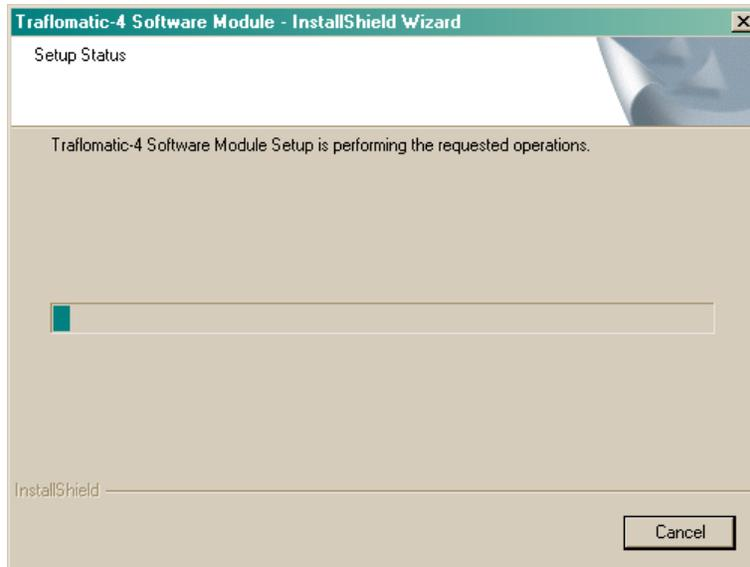
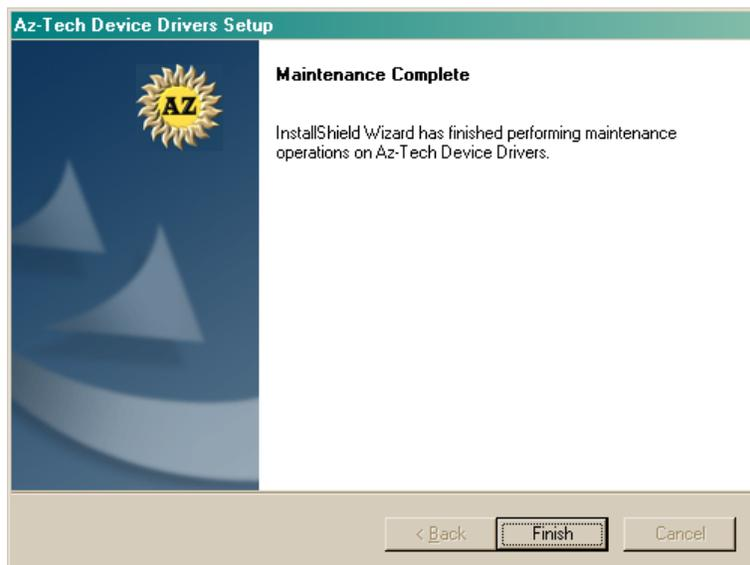

Figure 18
Figure 19
6. The Setup Status window will appear (Figure 18) showing the user the status of the installation procedure. Immediately upon completion of copying the FREEDOM Tool software, the Installation program will begin installing the necessary files for the Security Key Device. Upon the completion of the Security Key Software Installation a window similar to Figure 19 will appear. This window informs the user that the **Az-Tech Device Drivers Setup** is complete and the user should select Finish to complete the installation. At this time select the **Finish** pushbutton on the screen to complete the **Az-Tech Device Driver Setup** and continue with the FREEDOMWare Installation.